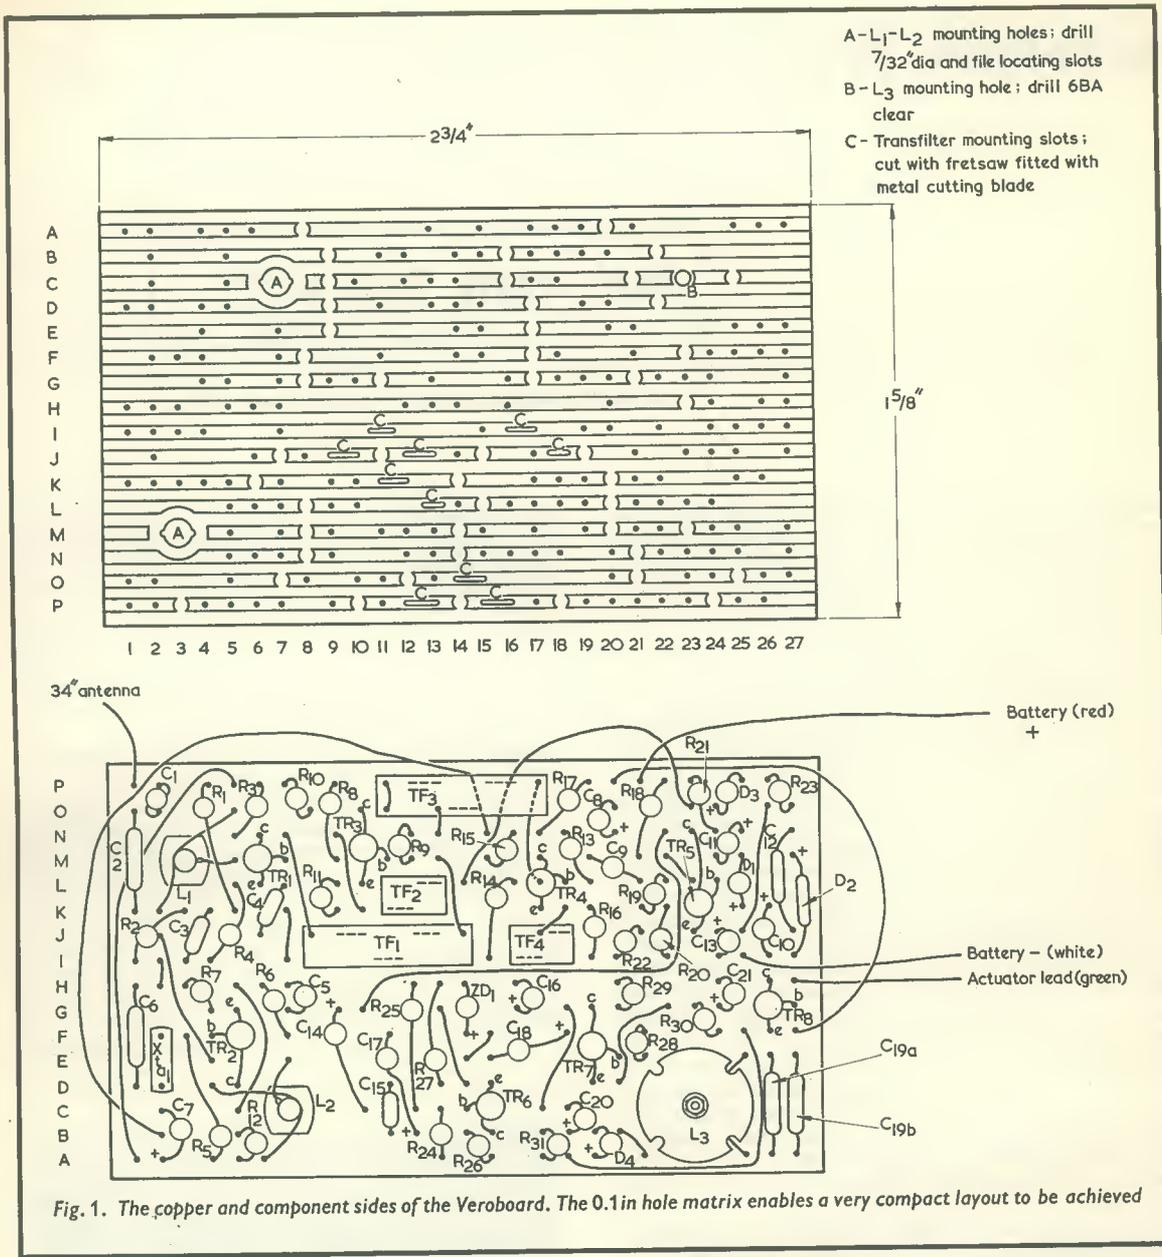

Fig. 1. The copper and component sides of the Veroboard. The 0.1 in hole matrix enables a very compact layout to be achieved
(1) Cut the Veroboard panel to size, as shown in Fig. 1, and break the copper strips, with the aid of
(9) A.F. Amplifier/Limiter. Connect a plain link between 14e and 15f, and sleeved links between 10g and 22n, and 14d and 13g. Solder in place C₁₄, C₁₅, C₁₇, R₂₅, R₂₇, R₂₄, TR₆, R₂₆, ZD₁ and C₁₆. The lead-out of ZD₁ marked with a plus sign in Fig. 1 is its positive lead when used as a zener diode. Connect a permanent battery negative lead (white) to 25i. Temporarily connect a sleeved lead